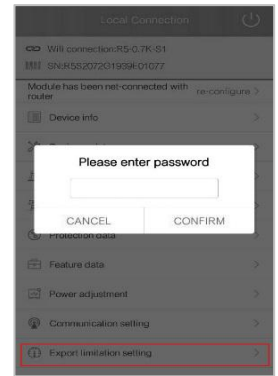

Figure 6.1 Local connect Figure 6.2 Export limitation setting
(2) Log in APP → Click "My" → Click "Remote control" → Click "WiFi" / "Bluetooth" → Click "Next step". as shown in Figure 6.1. Please refer to WiFi/GPRS/4G module manual for detailed connection operation.